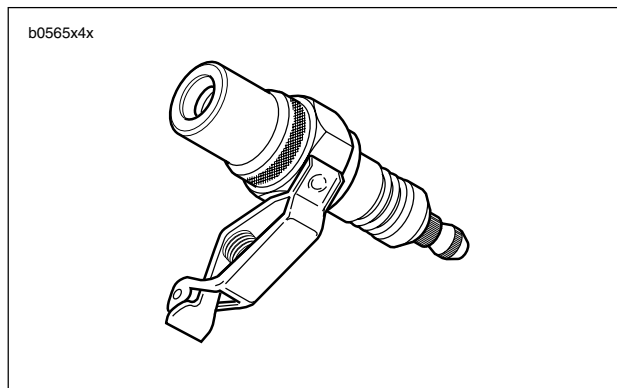

Figure 4-25. Spark Plug Tester (Part No. HD-26792)
- b. See Figure 4-25. Attach cable to SPARK PLUG TESTER (Part No. HD-26792). Clip tester to cylinder head bolt.